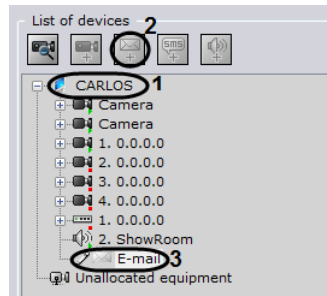

Fig. 6.3—25 Creating an E-mail object
1. In the list of devices, highlight a **Server** object (Fig. 6.3—25, 1)
2. Click the  button (see Fig. 6.3—25, 2).